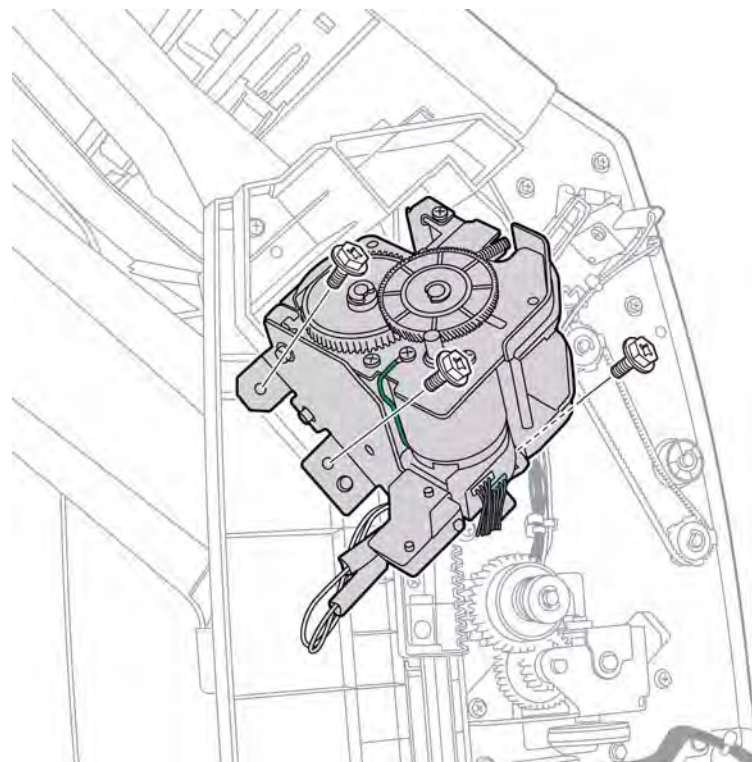

Figure 2 Remove, but do not disconnect the Stapler Assembly
6. Remove 3 screws (1 metal, 2 plastic) that secure the Stapler Assembly to the Finisher, Figure 2.